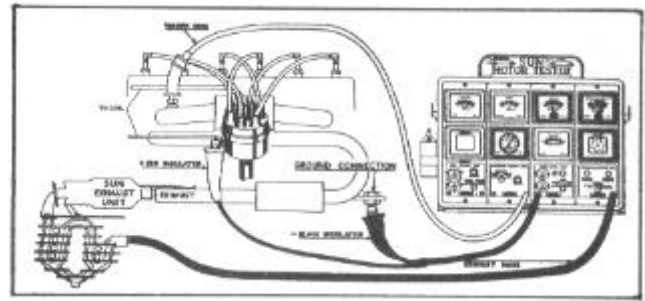

FIGURE 34
2. Connect tachometer cables to the distributor and ground one cable, Figure 34.